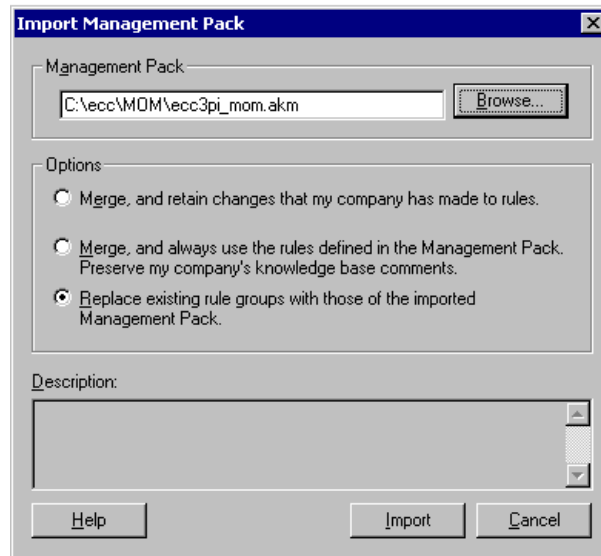

Figure 9-4 Import Management Pack
4. Select `ecc3pi_mom.akm`, and then click **Import**. Refer to Figure 9-4.